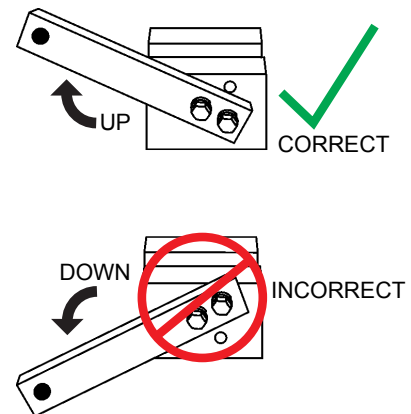

Figure 30. Fixture Arm Position (UP)
2. Make sure the fixture arm is in the **UP** position (Figure 30).